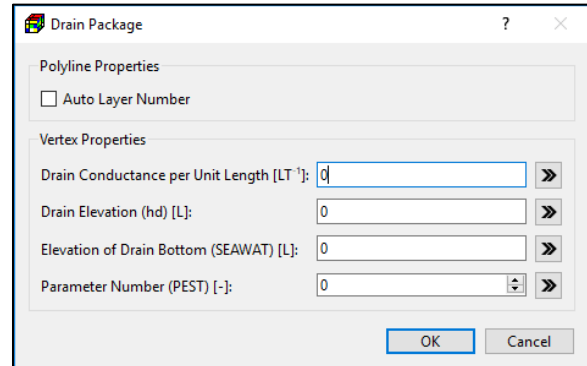

Figure 52. The Drain Package dialog box for specifying vertex properties
2. **Polyline input method:** Figure 52 shows the dialog box used to define polyline and vertex properties.